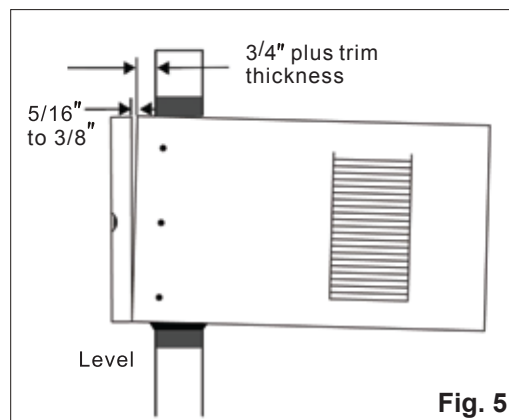

Fig. 5
3. Position cabinet to achieve proper slope for water removal. (See Fig. 5.)